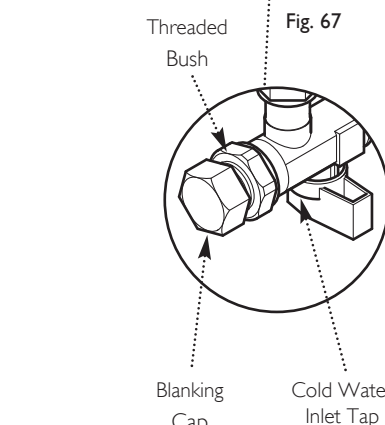

Fig. 67
15. Turn the tap off and draw off from a hot tap. Undo the blanking cap and remove the threaded bush (Fig. 67).